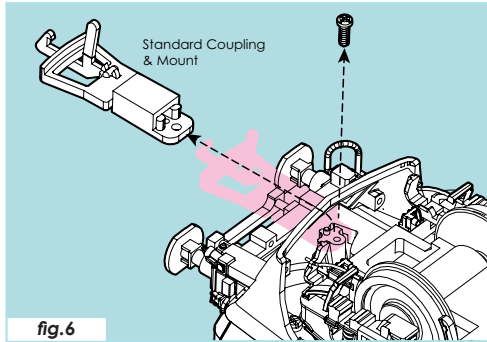

fig.6
1. First detach the standard coupling and mount by removing the screw located under the cab just inside the valance. (fig.6)